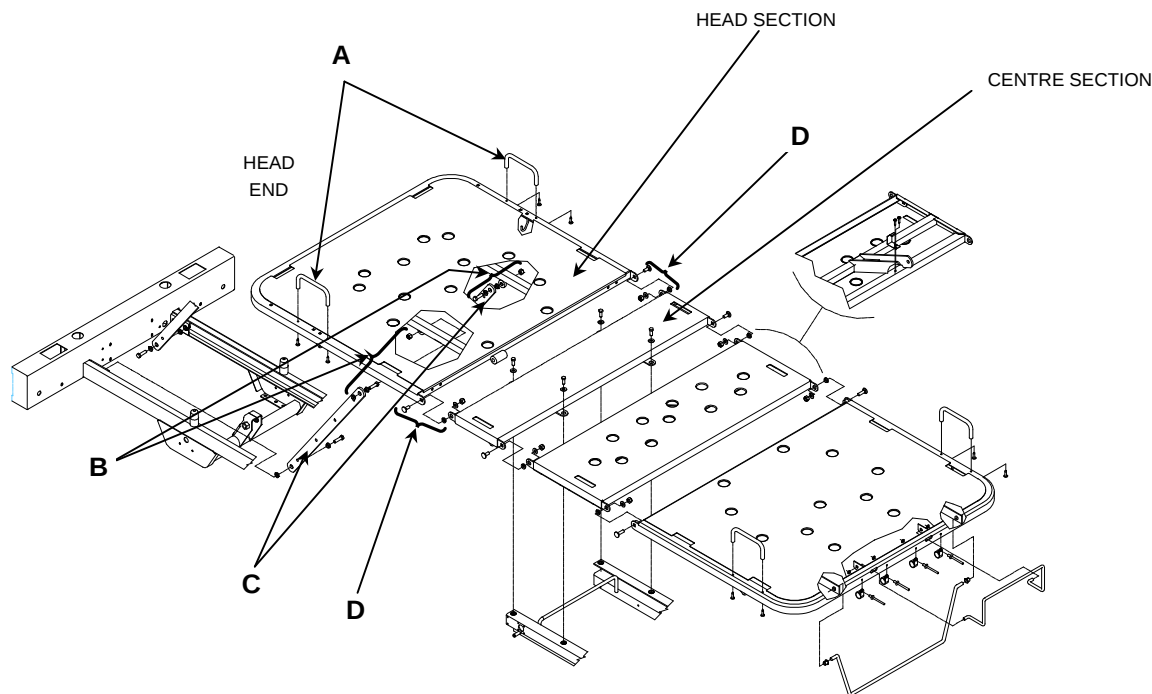

Figure 4.13D
12. Remove the two bolts/shoulder spacers(4)/locknuts (**B**, fig. 4.13D, page 41) holding the upper part of the two head arms (**C**, fig. 4.13D, page 41) to the head section. Lay them down.
14. Remove the two bolts/shoulder spacers/flat washers/locknuts (**D**, fig. 4.13D, page 41) linking the head section to the centre section. Remove the head section.
6. Remove the two mattress side retainers (**A**, fig. 4.13D, page 41) and save them for the replacement head section.
15. Remove the two bolts/shoulder spacers(4)/locknuts (**B**, fig. 4.13D, page 41) holding the upper part of the two head arms (**C**, fig. 4.13D, page 41) to the head section. Lay them down.
17. Remove the two bolts/shoulder spacers/flat washers/locknuts (**D**, fig. 4.13D, page 41) linking the head section to the centre section. Remove head section